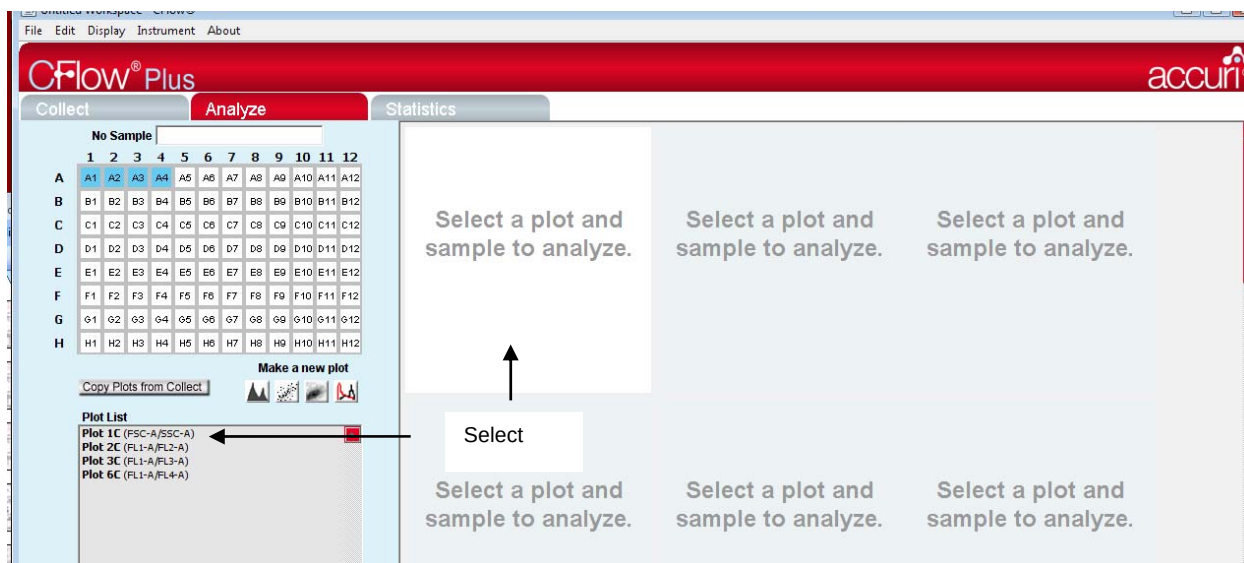

Figure 4-3 Plots 1C, 3C and 6C opened in the top row of Analyze tab
5. Click OK. The dialogue box will close and the selected plots will be added to the Plot List (Figure 4-3).
5. Click on the upper left plot corral in the Analyze tab to select it (background turns from blue to white), and then select Plot 1C (FSC-A/SSC-A) from the Plot List on the left hand side of the page (Figure 4-3).